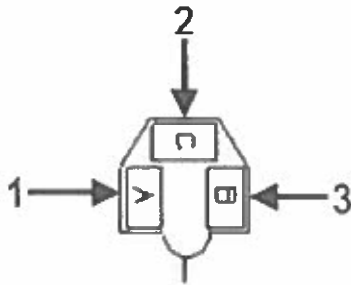

Figure 2 Headlight Connector (Viewed from Harness Insertion End)
- Verify circuit U11-GH WH is inserted into cavity A and circuit U52-D YL is inserted into cavity B. If the circuits are found to be in these cavities, proceed to step 7. If the circuits are reversed, remove the terminals from cavities A and B of the electrical connector and switch their positions upon reinstallation to the connector so U11-GH WH is inserted into cavity A and circuit U52-D YL is inserted into cavity B. See Figure 2 and Table 1.
- Verify circuit U11-GH WH is inserted into cavity A and circuit U52-D YL is inserted into cavity B. If the circuits are found to be in these cavities, proceed to step 12. If the circuits are reversed, remove the terminals from cavities A and B of the electrical connector and switch their positions upon reinstallation to the connector so U11-GH WH is inserted into cavity A and circuit U52-D YL is inserted into cavity B. See Figure 2 and Table 1.